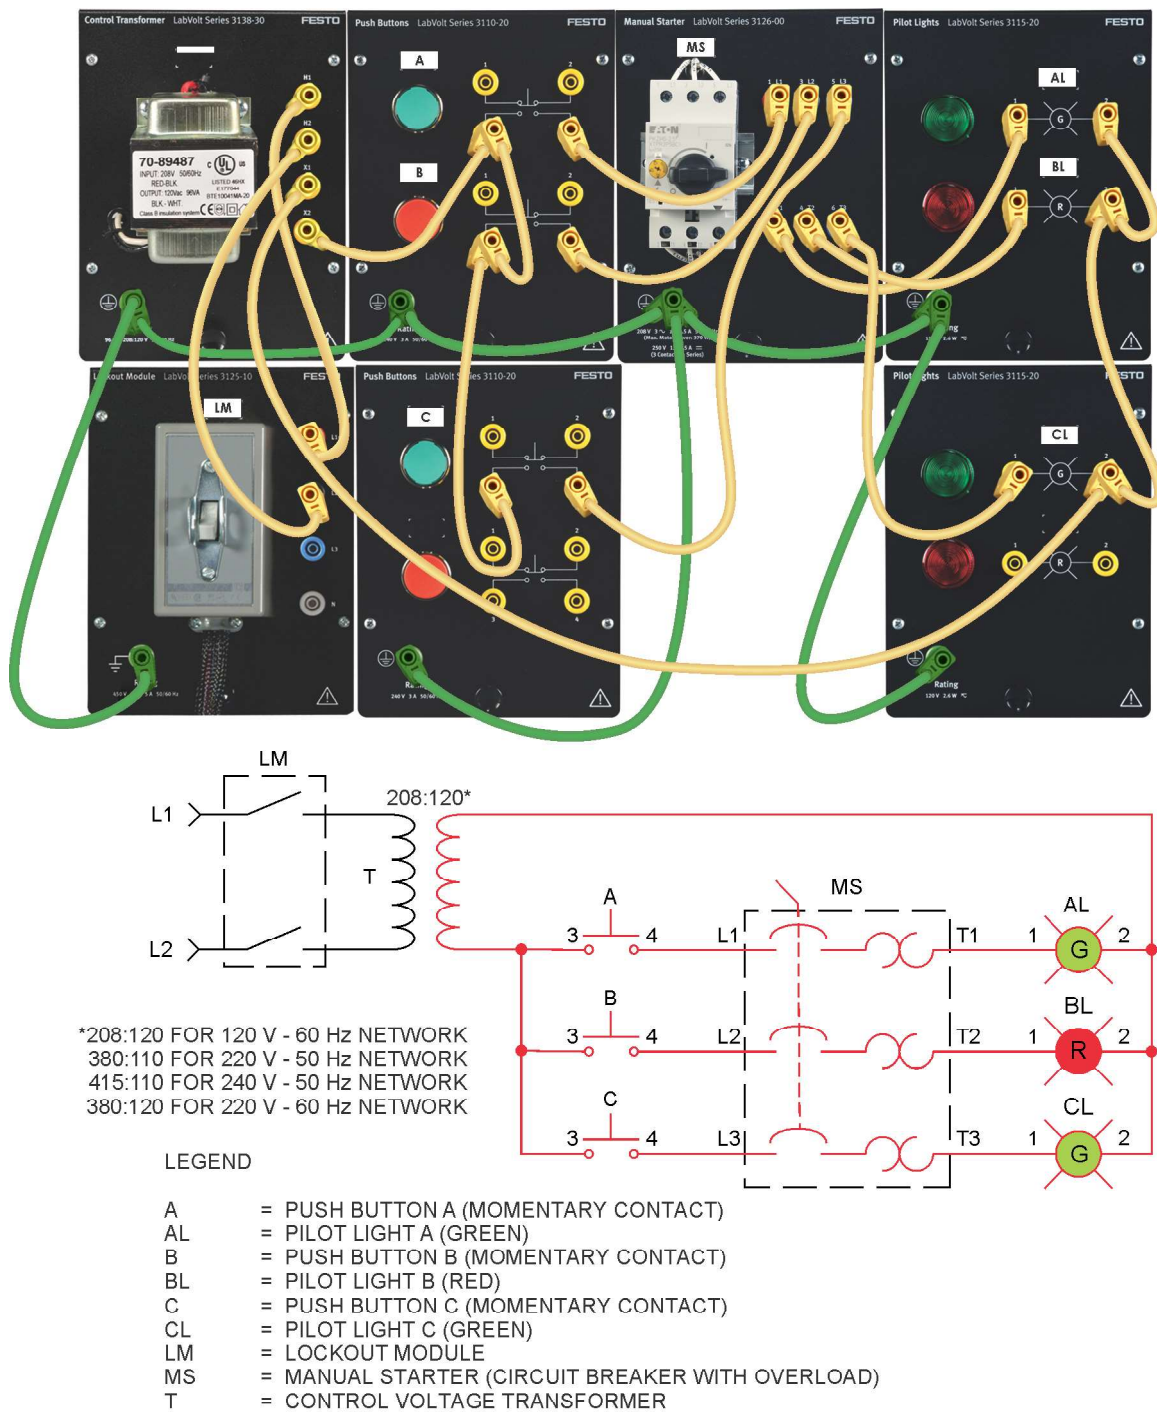

Figure 1-11. Basic manual starter circuit.
6. Connect the circuit shown in Figure 1-11.